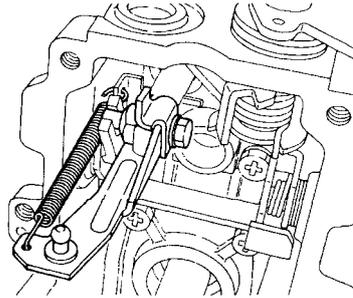

Figure 111 Installing the Start Spring
- cc.** Install one end of the start spring into the spring eye secured to the governor housing and the other end into the control rack connecting link with the aid of long-nose pliers (Figure 111).